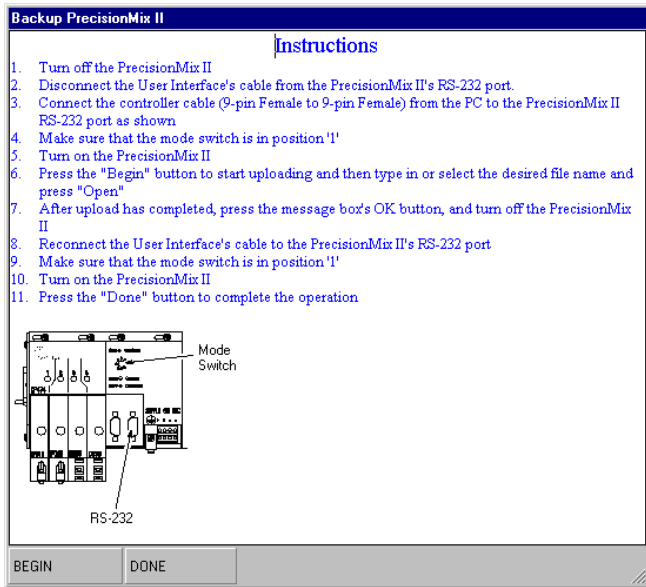

Fig. 13.9
8. Press the BEGIN button on the Instructions window to begin the backup. See Fig. 13.9.
14. Press the DONE button to close the Instructions window. See Fig. 13.9.